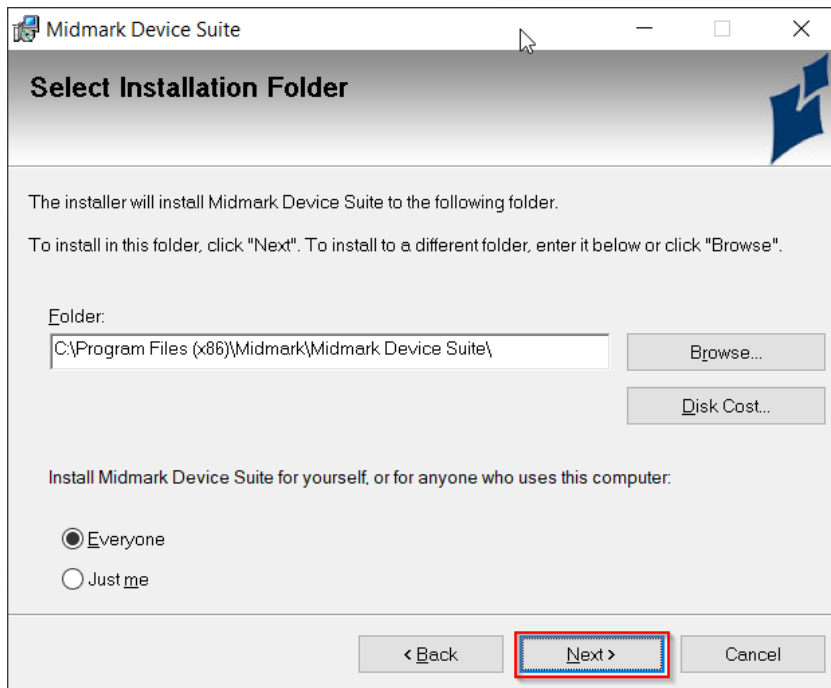

Figure 9. Pop-up to select location of the Midmark Device Suite installation.
- The pop-up window shown below in Figure 9 appears. Default options are populated automatically as shown below. These options can be changed according to user preference. When satisfied with the selections, click the “Next” button.